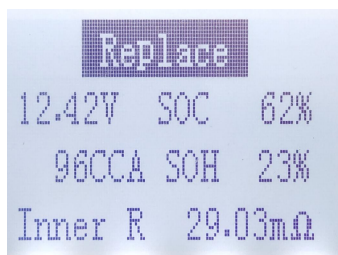

Figure 11
(4) Press the OK key to enter and get the result. Figure 11: